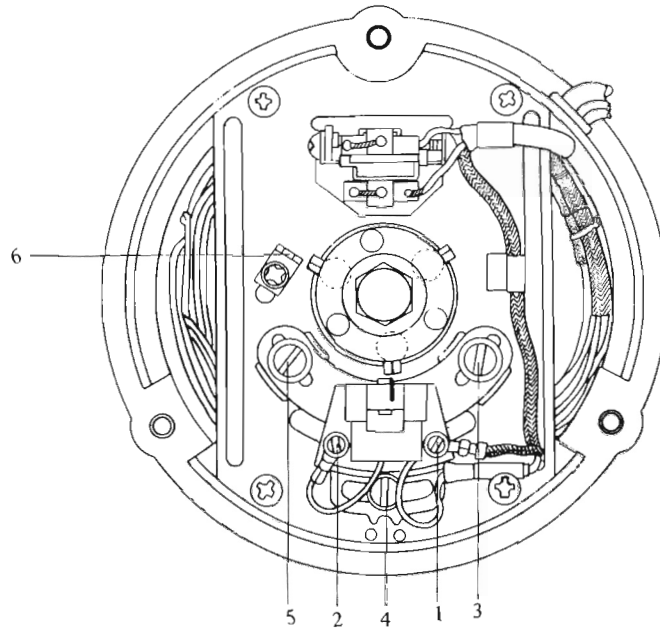

Fig. 5-37
The ignition timing signal generator (SG) is installed in the AC generator. Fig. 5-37 shows its structure.